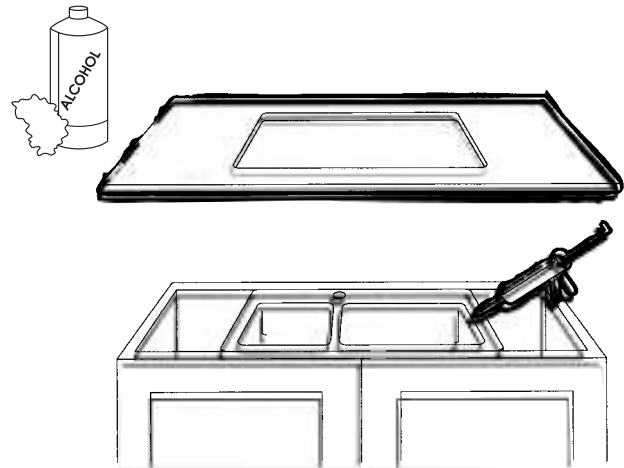

Figure 16
- Clean the top of the sink flange with denatured alcohol and a clean, white cloth (see Figure 16).